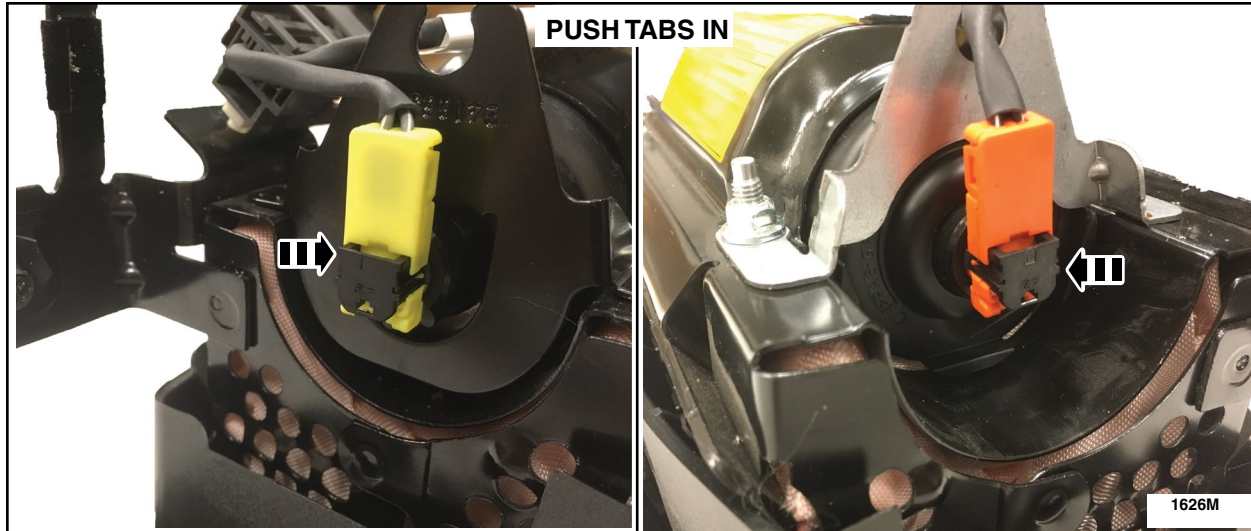

FIGURE 10
13. Align the T-shape index on both the wiring harness electrical connector and the airbag inflator. Install the *new* wiring harness onto the passenger airbag module and connect to both sides of the inflator and fully seat the black tabs. See Figure 10.